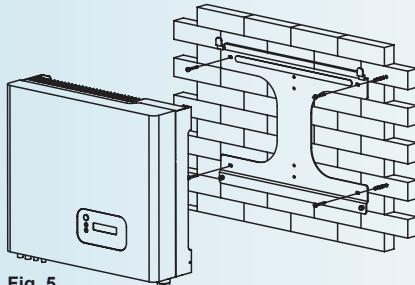
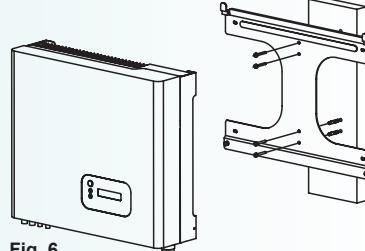

Fig. 5
Fig. 6
- You can use the four oblong holes provided in the four corners of the mounting frame (**Fig. 5**), or the four round holes aligned with the vertical axis of the mounting frame (**Fig. 6**).
- Install and mount the mounting frame using the four mounting screws (**Fig. 5 or Fig. 6**).